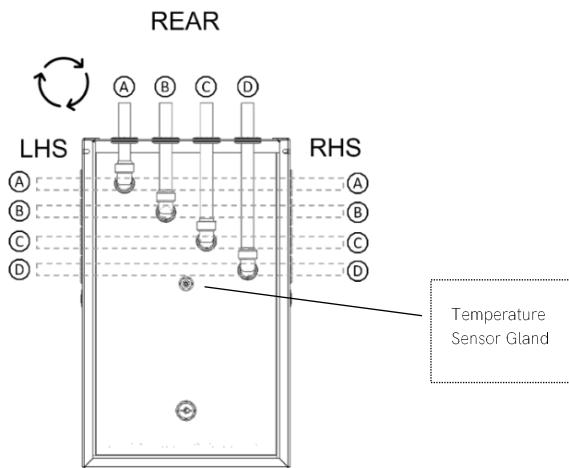

Figure 8 - Thermino TS Heat Battery Ports
- Rotate the elbows to the side you wish to connect the hydraulics (left, right or back) (Figure 8).
- The cold water inlet must be connected to Port D & the hot water outlet to Port A. Meanwhile the External Heat Source Flow to Heat Battery must be connected to Port B & External Heat Source Return from the Heat Battery to Port C (Figure 8).
pocket. The white marker should be sitting on top of the blue cable gland (see Figure 8).